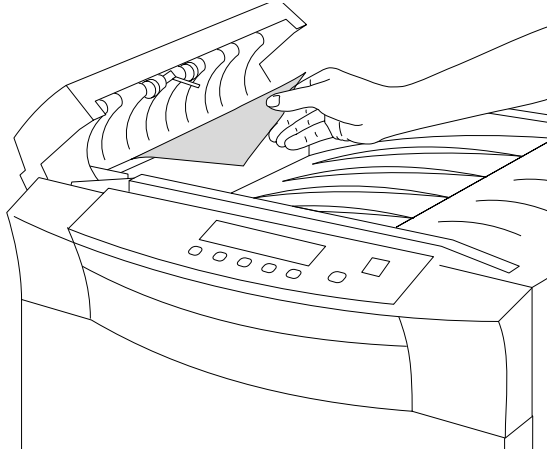

Figure 3-62 Removing jammed paper from Ejection Cover area
2. Remove any jammed paper in the ejection unit cover area (Figure 3-62) and close the cover.